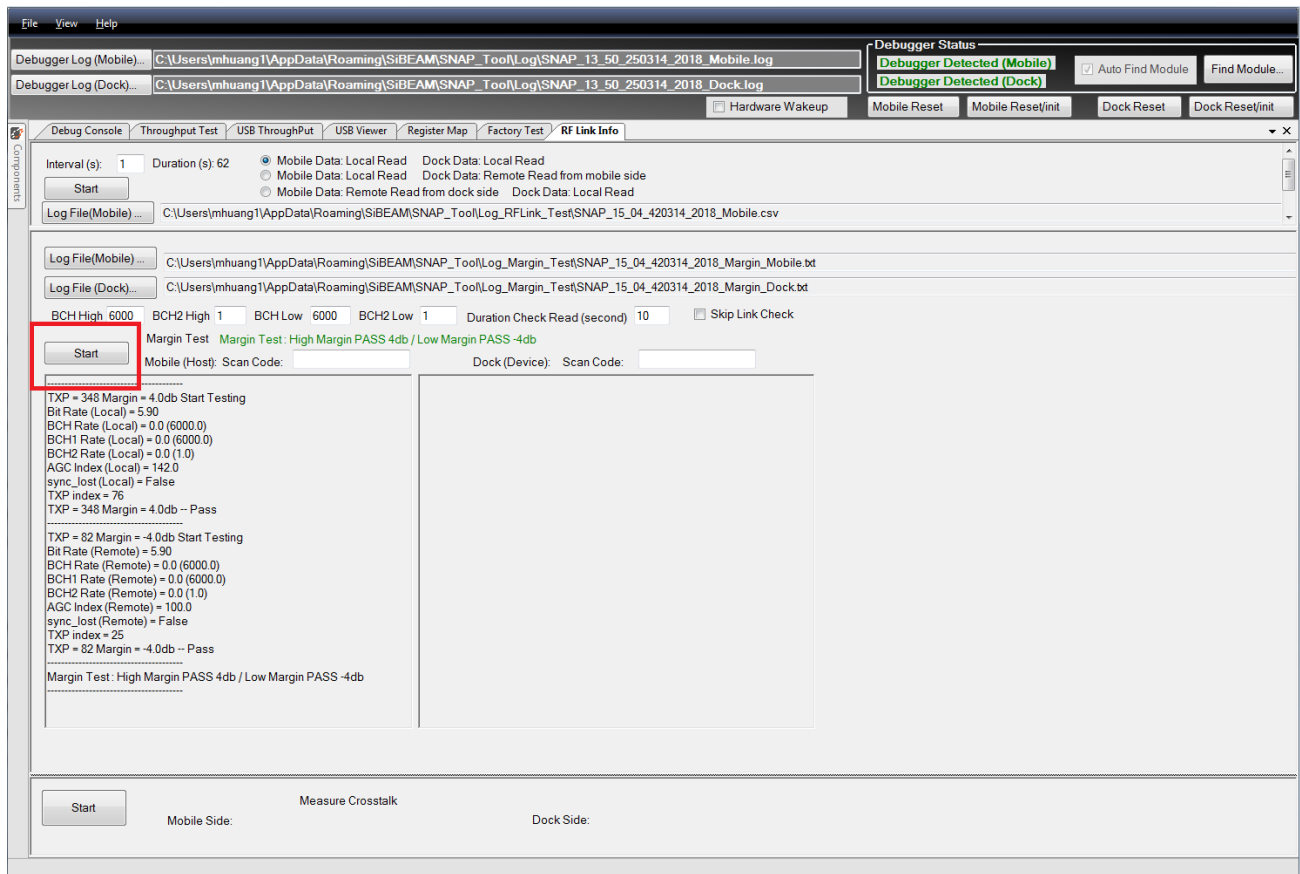

Figure 3.17. Link Margin Test
The second test is the link margin function (Figure 3.17) to check the RF link margin. It changes the transmit power on both mobile and dock side, and reads the corresponding BCH/BCH2 errors. The purpose of the test is to see if there is enough link margin on either side in case there is more/less transmitted power.
3. Go back to the RF Link Info page and the **Start** button displays, as shown in Figure 3.17.